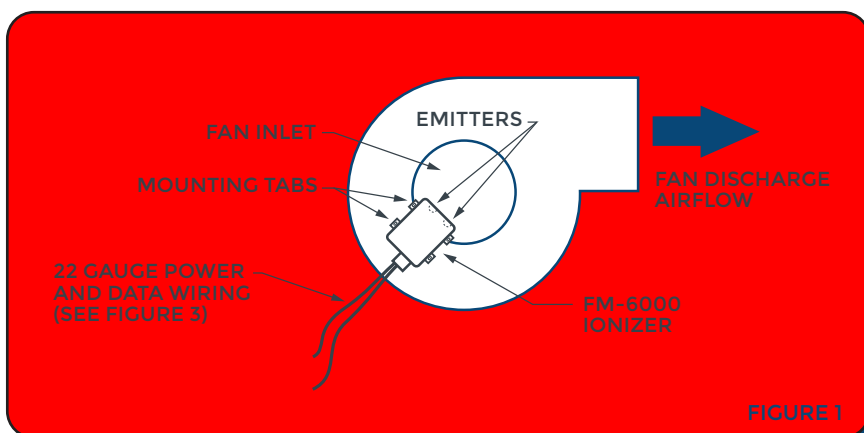

FIGURE 1
1. Mount the ionizer at the inlet of the fan using the supplied magnets. The ionizer can also be mechanically fastened to the fan housing using #4 self-tapping sheet metal screws through the mounting tabs. (See Figure 1) Be sure to avoid the fan blades when screwing into the fan housing.